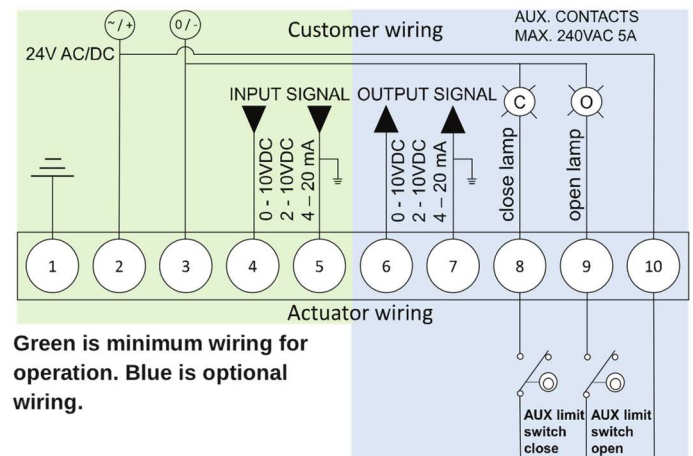

Figure 7 Electrical wiring diagram
- The state of the limit switch can be measured on terminal 8 (closed) and 9 (open) when power is supplied to terminal 10 (see Figure 7).